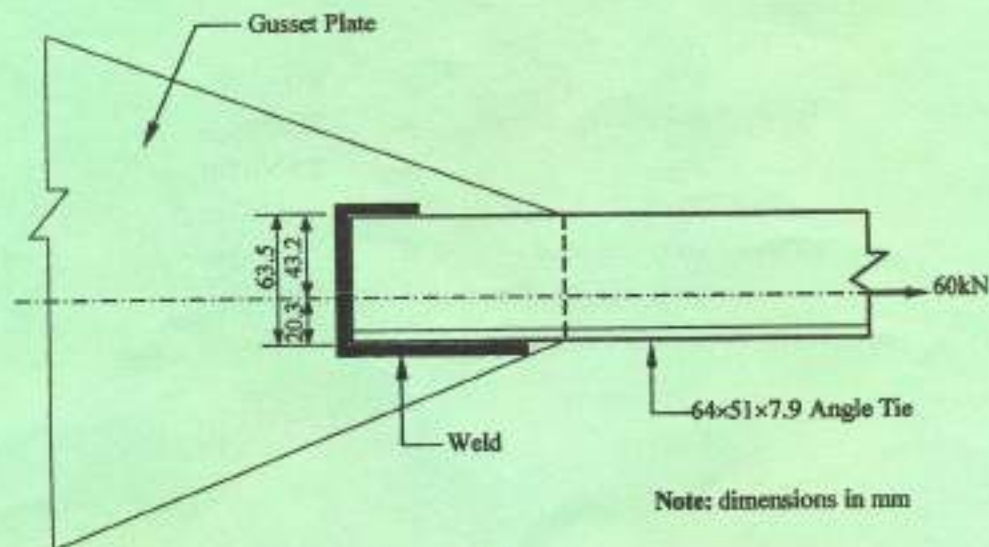

Fig 6
8. (a) Design the weld for the direct shear connection for the angle shown in Figure 6. The load acts on the centroidal axis of the angle. Use 6mm fillet weld of strength 483 N/mm. (11 marks)